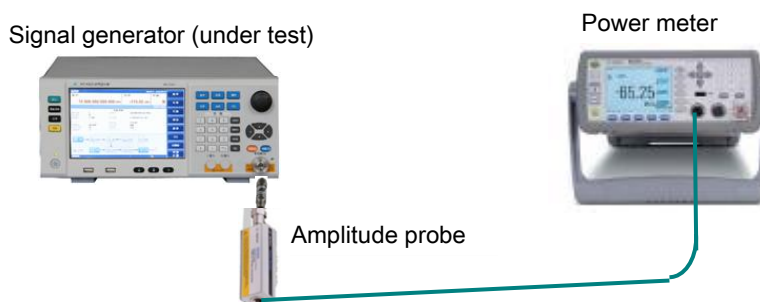

Fig. 8.5 Amplitude test
1) Connect the equipment as shown in Fig. 8.5, select E9304A for the power meter probe, start up the instrument and warm it up for at least 30 min.
1) Connect the instrument as per Fig. 8.5, set the frequency of the signal generator to 9kHz, amplitude to 0dBm, and record the reading P1 of the power meter.
- 1) Connect the equipment as per Fig. 8.5, start it up and warm it up for at least 30 min.